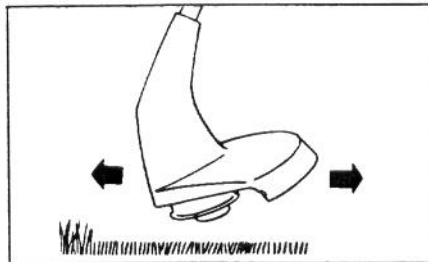

Figure 11
4. Slowly move unit into and out of area being cut, maintaining unit at desired cutting height. This can be either a forward-backward or side-to-side motion (Figs. 11 & 12).